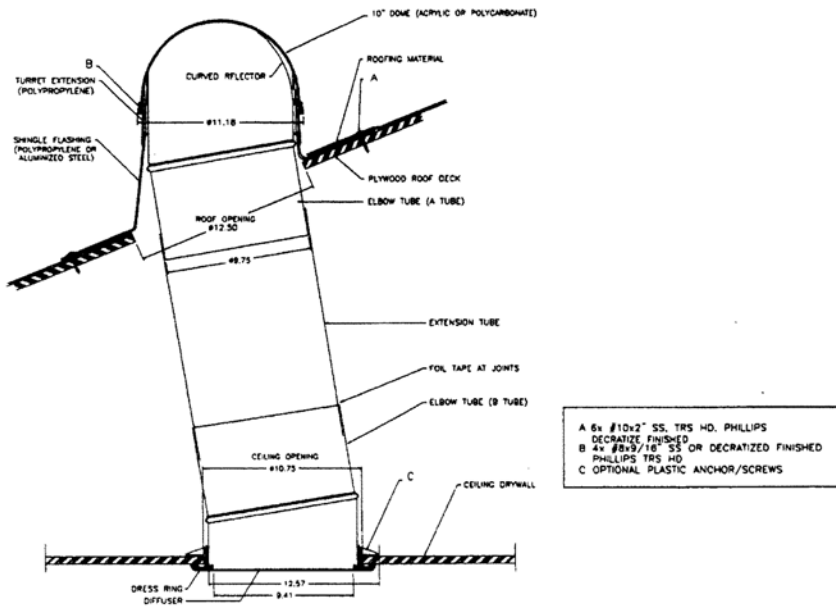

FIGURE 2—DETAILED DESCRIPTION OF 10-INCH SOLATUBE
2.2.1 General: The SOLATUBE skylights are prepackaged for field installation, with all components, attachments, and instructions in the shipping carton. A 10.5-, 14.5-, 16.5- or 22-inch-diameter (267, 368, 419 or 559 mm) hole, for the 10-, 14-, 16- or 21-inch-diameter (254, 356, 406 or 533 mm) skylight, respectively, is cut in the roof sheathing and ceiling below the attic space. The skylight base is attached to the roof sheathing using eight No. 10 by 2-inch (51 mm) stainless steel sheet metal screws for the 10-, 14-, and 16-inch (254, 356, 406 mm) units, and ten screws for the 21-inch (533 mm) units. A pile weather seal is adhered to the top edge of the skylight base. The reflective top tube with attached dome ring is then inserted into the skylight base opening. A curved reflector is mounted inside the dome. The dome is secured to the base using four No. 8 by 9/16-inch (14 mm) stainless steel or dechromated-finish steel panhead sheet metal screws for the 10-, 14- and 16-inch (254, 356 and 406 mm) units, and six No. 8 by 1-inch (25.4 mm) screws for the 21-inch (533 mm) units. The 10-, 14- and 16-inch (254, 356, and 406 mm) units terminate at the ceiling into the ceiling ring installed using either four No. 10 by 1.5-inch (38 mm) steel screws or four plastic self-locking anchors. See Figure 2. The 21-inch (533 mm) unit terminates at the ceiling into a square-to-round plastic transition box set into the framework on a suspended T-bar ceiling system, or is installed into a gypsum ceiling using four No. 10 by 1.5-inch (38 mm) steel screws. The 10-, 14- and 16-inch (254, 356 and 419 mm) light diffusers are secured onto the polypropylene ceiling ring by means of a one-eighth clockwise turn or by means of four plastic diffuser clips. The 21-inch (533 mm) units are secured onto the square-to-round transition box by means of diffuser clips or, for the 21-inch (533 mm) open ceiling light diffuser, by means of four plastic diffuser clips.